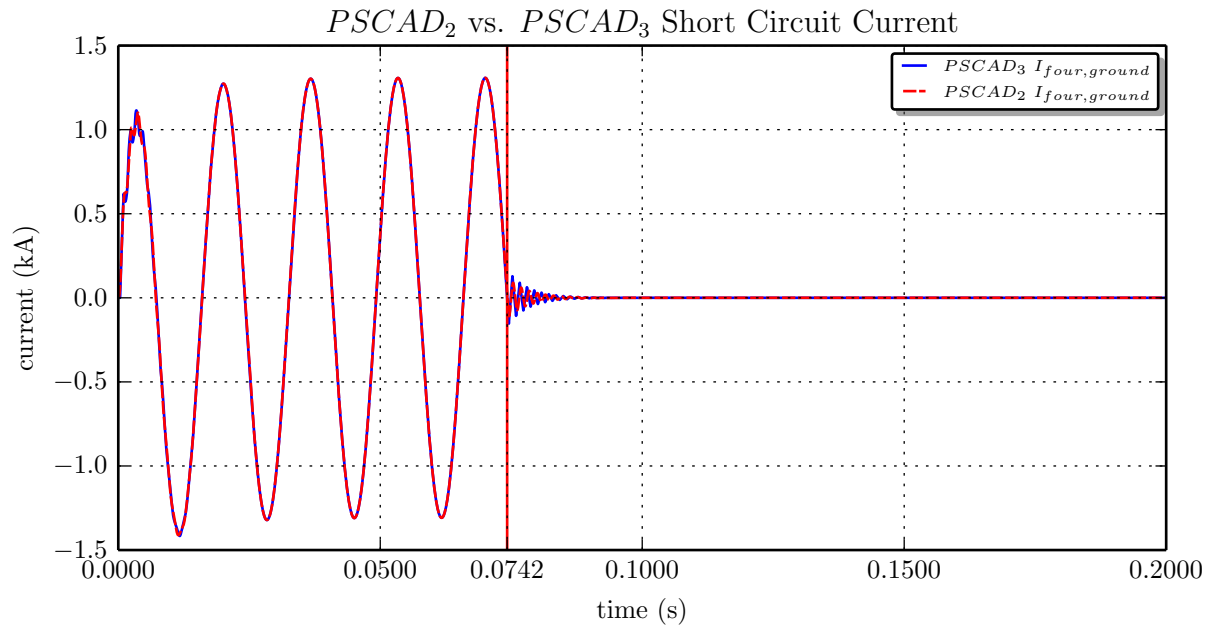

Figure 14: Plots of $I_{four,ground}$ short circuit current
- b) Plots of $I_{four,ground}$ which represents the short-circuit current at the end of the transmission line (Figures 14, 15, and 16).